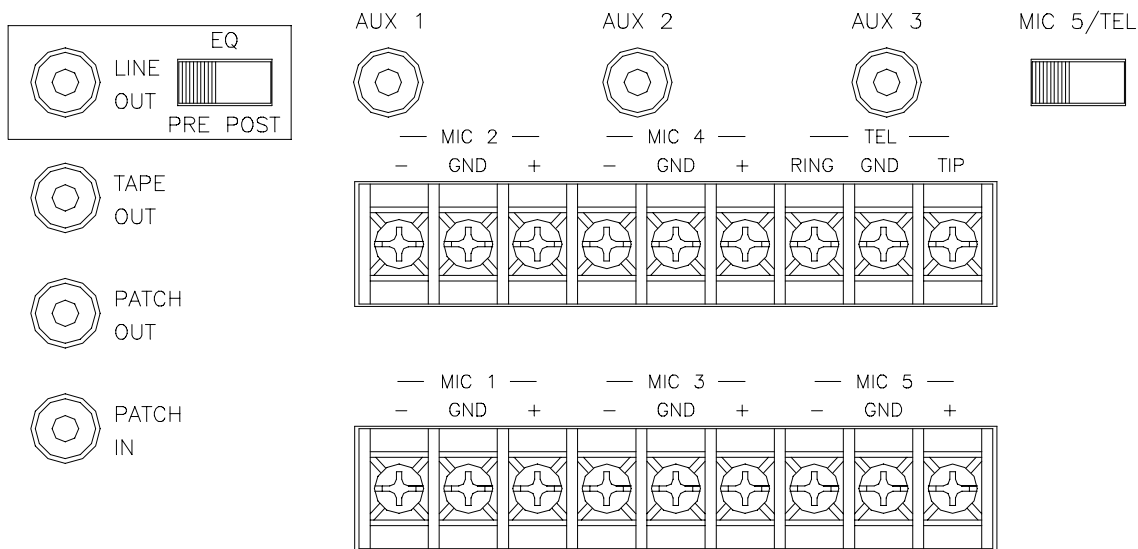

Figure 2: Input Connections
6. TELEPHONE PAGING INPUT (SEE FIGURE 2):
7. MICROPHONE INPUTS (SEE FIGURE 2):
- (A) Connect balanced low-impedance microphone wires to the input screw terminals marked (+) and (-). To avoid possible interference, the microphone input cable should be a shielded cable, with the shield connected to the input GND terminal.
- (B) An unbalanced microphone may be connected to the same screw terminals; the signal to (+) and the shield to (-). The (-) input terminal must be connected to the adjacent screw terminal marked GND. Install a jumper wire between the unused screw terminal and the GND screw terminal.
8. AUXILIARY INPUTS (SEE FIGURE 2):
9. LINE OUT (SEE FIGURE 2):
10. PATCH OUT - PATCH IN AND TAPE OUT (SEE FIGURE 2):